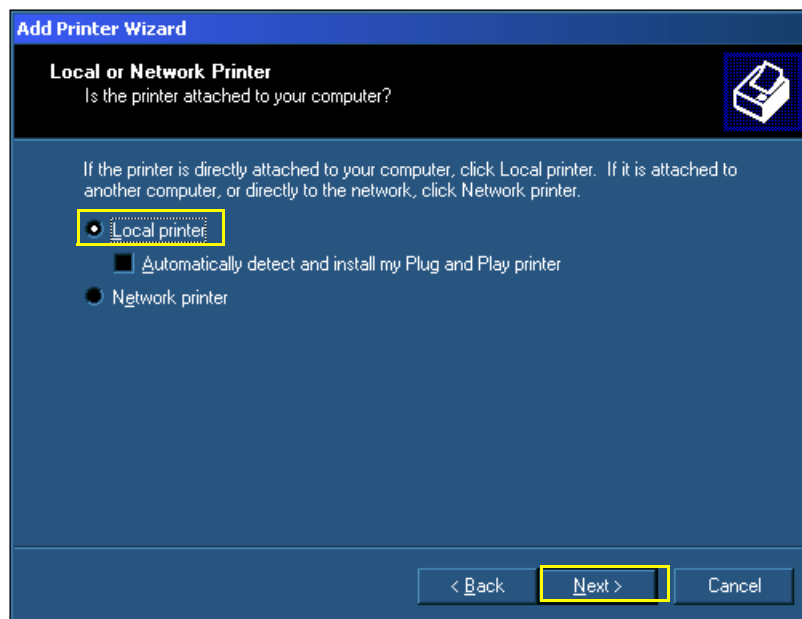

Figure 8-139 Verify Local Printer
- 10.) When prompted, verify that *Local Printer* is selected. If not, activate the **Local printer** radio button as shown in Figure 8-139.